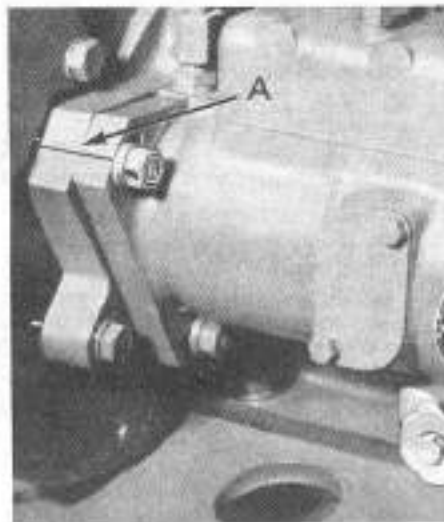

Fig. 62—View showing C.A.V. fuel injection pump timing marks.
**110. PUMP TIMING.** Provided the injection pump drive gear to camshaft timing (see paragraph 112) has not been disturbed, the C.A.V. fuel injection pump is properly timed when timing mark on pump housing is aligned with timing mark on drive housing flange as shown in Fig. 62. If the pump drive
To reinstall pump, first install the thrust spring in bore in top end of oil pump shaft, then insert splined (quill) shaft in drive gear with chamfered end up. Install the pump using a new gasket, align the timing marks as shown in Fig. 62, then tighten pump retaining nuts. Reconnect the fuel lines leaving injector line connections loose at the injectors. Install throttle and stop controls and bleed the fuel system as outlined in paragraph 103.